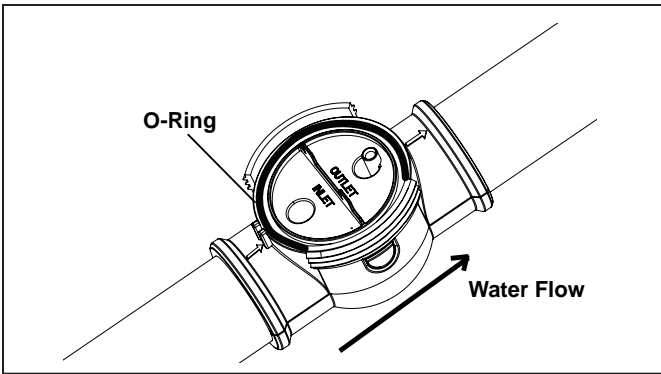

Figure 11. Water Flow Arrows
11. Insert the o-ring into the channel on each of the clamps (see Figure 11).